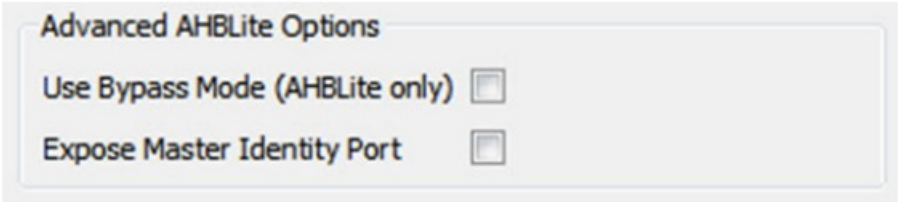

Figure 1-2 • Advanced Options Configuration
- Use this option to enable the FIC bypass mode. This option is only active when the interface type is AHBLite (as shown in Figure 1-2). The clock ratio between M3_CLK and the FIC_0_CLK and FIC_1_CLK must be set to 1:1 when the bypass mode is selected. This requirement is enforced in the MSS CCC Configurator when bypass is selected.